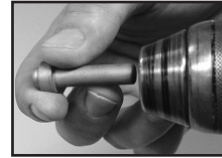

Figure 2
3. Slide the installation tool into the power drill chuck. (Figure 2)